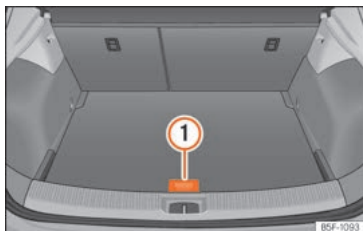

Fig. 191 Boot: variable floor
»» **Fig. 191** ①, pull it back and push the backrest of the rear seat until the movable part of the floor is resting on it.